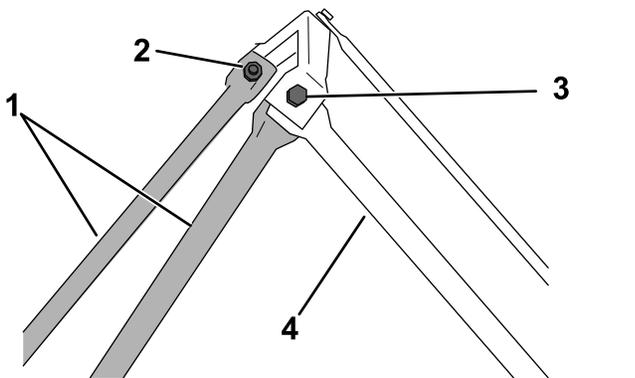

Figure 7
3. Secure the 2 side frame tubes and 2 front posts to the front frame tube (Figure 7).